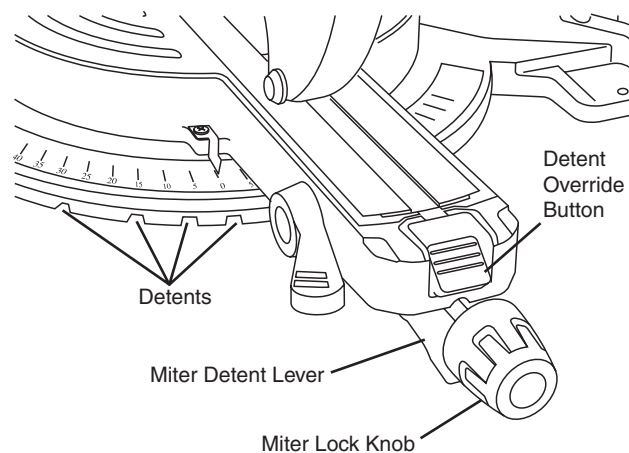

Figure 41. Detent Override
1. Pull up and hold the miter detent lever – the lever is located under the turntable's front arm (see Figure 41).
2. Press down on the top half of the detent override button and then release hold of the detent lever. The override button will remain in the DOWN position (see Figure 41).